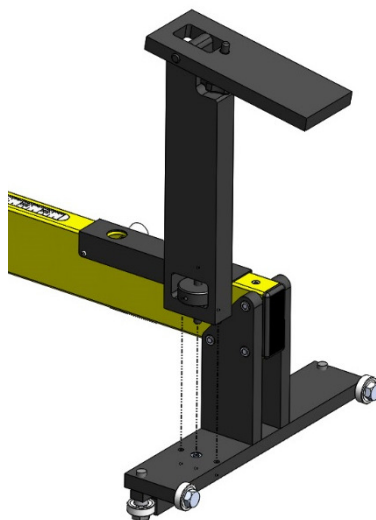

Figure 4
3. Screw the REFOS bracket to the rail foot of the gauge. The REFOS bracket may be fitted to either side of the gauge as required (see Figure 4).
1. Secure laser unit to REFOS bracket (see Figure 4).